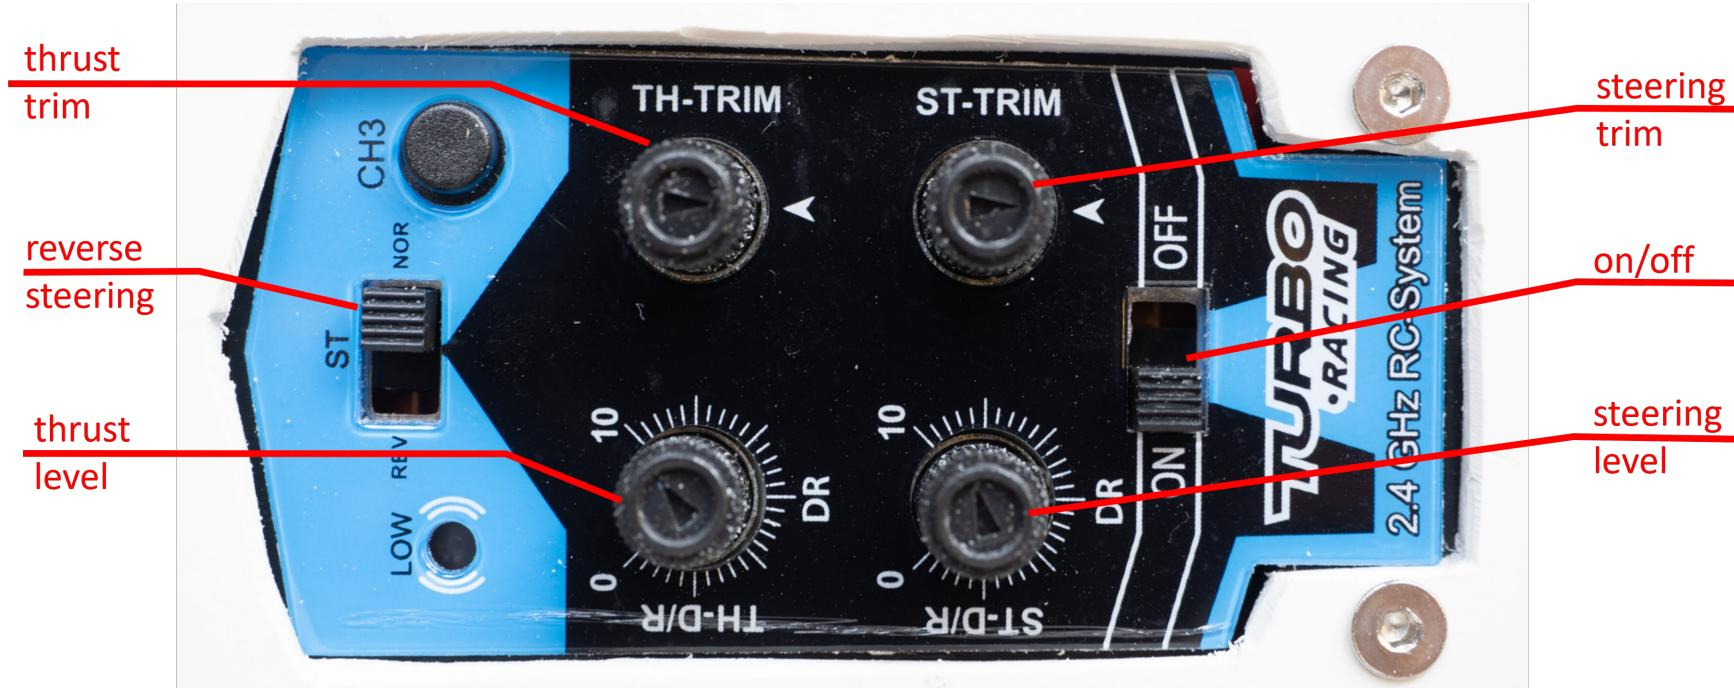

Figure 3: RC Buttons
- (a) Adjust RC knobs thrust trim and steering trim to the neutral center positions, as depicted in Figure 3